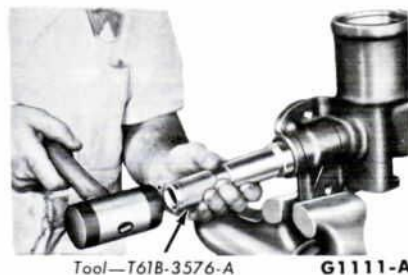

FIG. 61—Sector Shaft Seal Installation
5. Install the sector shaft seal (Fig. 61) and secure in place with the snap ring. Install the sector shaft adjusting screw with the proper shim. Place the housing cover, over the adjusting screw, and turn the screw until the cover is seated.